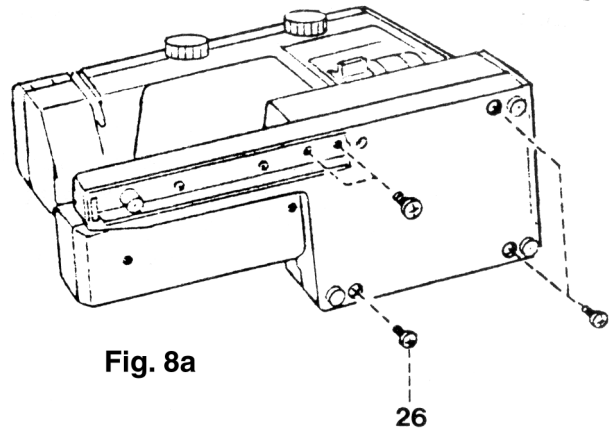

Fig. 8a
- Turn out the five baseplate retaining screws and remove baseplate (fig. 8a).